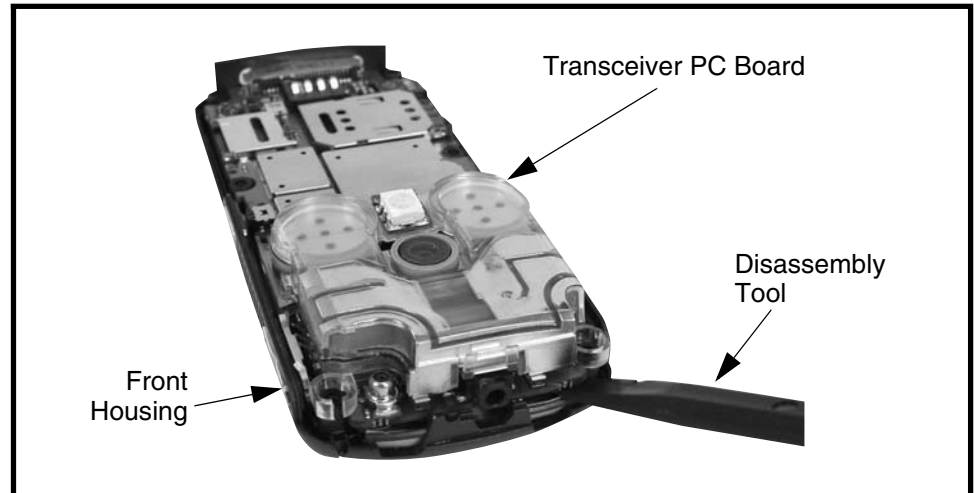

Figure 8. Removing and Replacing the Transceiver PC Board
2. Insert the flat end of the disassembly tool between the front housing and the transceiver PC board as shown in Figure 8.